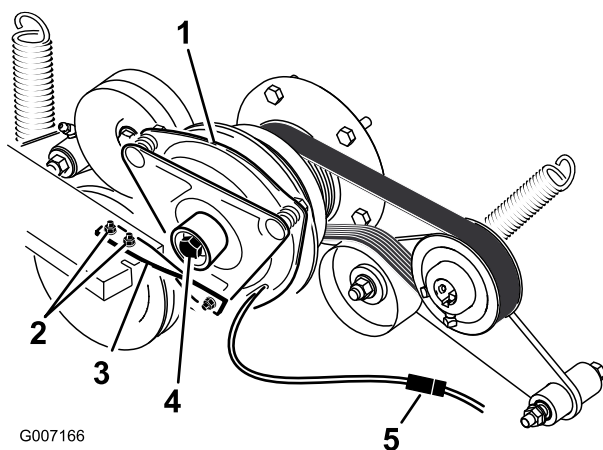

Figure 62
6. Unplug the electric connection for the clutch (Figure 62).
7. Remove the two bolts holding the rubber clutch strap to the mower frame (Figure 62).
8. Remove the center bolt holding the clutch to the engine shaft and remove the clutch and key (Figure 62).
15. While holding the crank shaft at the back of the machine, install the center bolt and torque it to 50 ft-lbs (68 N-m) (Figure 62).
16. Install the rubber clutch strap to the mower frame with the two previously removed bolts and nuts (Figure 62).
18. Plug in the electric connection for the clutch (Figure 62).